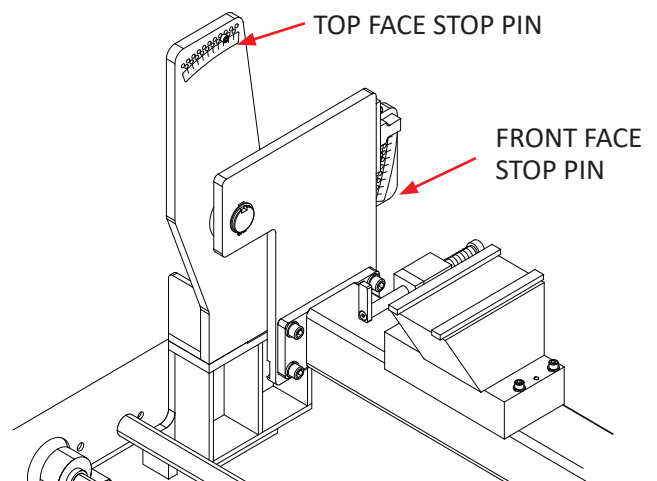

FIG. 32
2. Move the tooling ROTATION ACTUATOR so the tooling bar stop is at midpoint between the front face stop and the top face stop. See FIG. 32.
3. Move the TOOLING ROTATION STOP PIN for the front face to the correct angle. See FIG.32.
4. Move the TOOLING ROTATION STOP PIN for the top face to the correct angle. See FIG. 32.